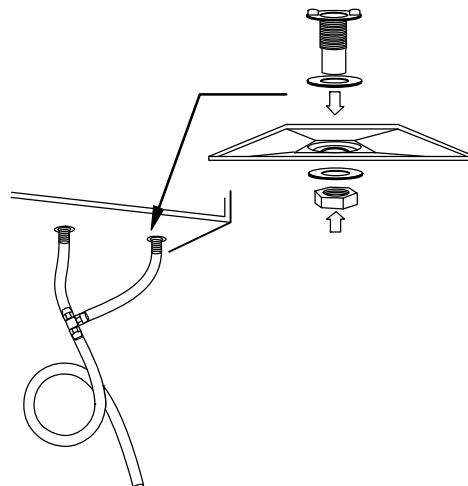

Fig. 8 – Condensate Drain With Loop Trap (HRV Only)
1. Punch out holes in foam insulation and door, then insert sleeved grommets into bottom of unit using the gasket washer and nut. See Fig. 8.
4. Make a loop in the tubing below the “T” connector to create a trap to prevent sewer gases from entering the ventilation system. See Fig. 8.